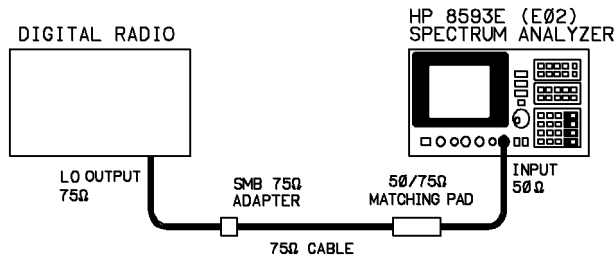

Figure 3-16. IF Frequency Measurement
1. Set up equipment as shown in Figure 3-16.